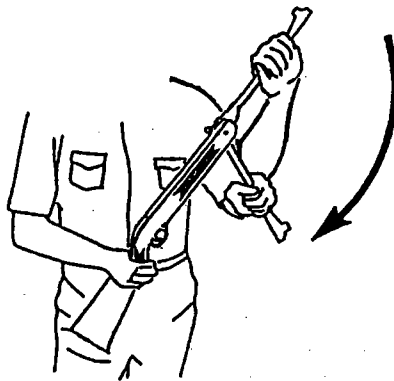

Fig. 2
- Grasp the rifle by the pistol grip with one hand and place your other hand around the barrel (Fig. 2).